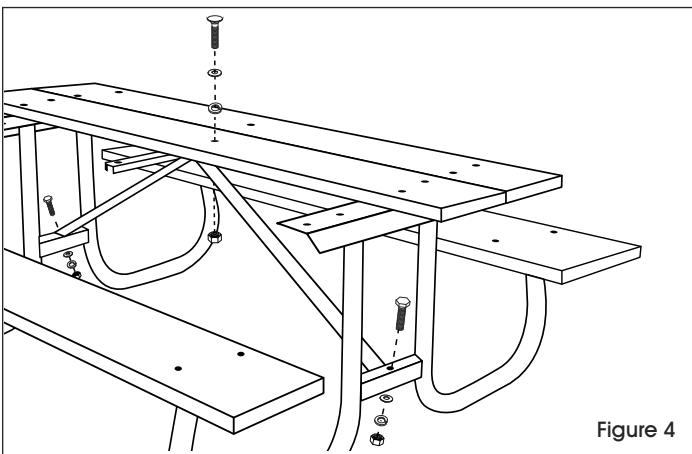

Figure 4
6. Position both support arms so they are running from the table frame to the middle hole of the center strut. Loosely attach them using a 3" carriage bolt, flat washer, lock washer and hex nut through the center hole of the table. (See Figure 4)
7. Attach the support arms to the frame using 1" hex bolts, flat washers, lock washers and hex nuts. (See Figure 4)